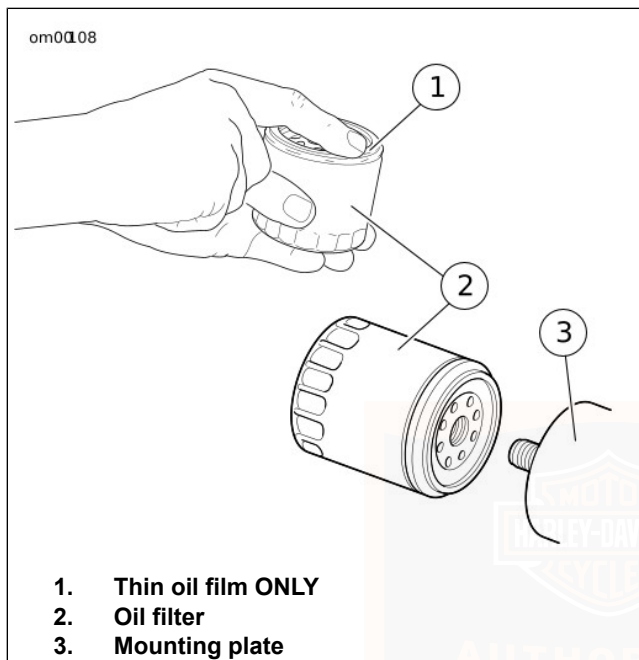

Figure 30. Applying Thin Oil Film
See Figure 30. The oil filter is located on an oil filter mount in front of the engine.
4. See Figure 30. Apply a thin film of oil to the gasket contact surface on the mounting plate, gasket and **new** oil filter.